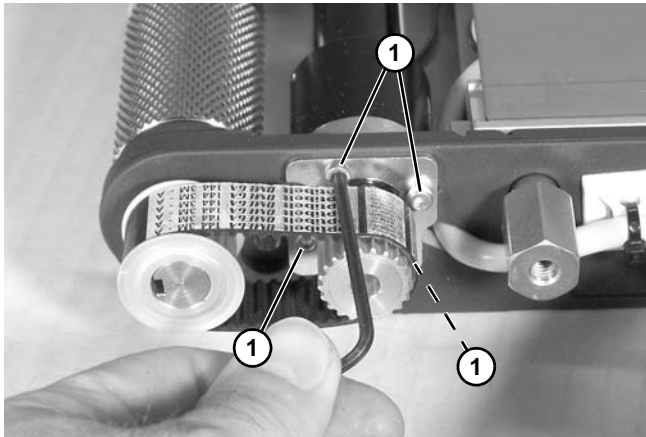

Figure 85
4. Loosen four clamp plate screws (Figure 85, item 1).